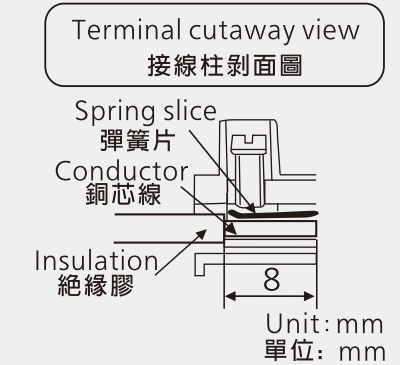

Figure 2
-  Strand the core wire together after stripping, then insert them into about 8 mm deep position of the terminal block, ensuring that the part is under the spring slice, and no copper core cord is exposed outside. Make sure that the copper core cords are fixed by screws reliably (the recommended screw fixing torque is $0.49 \text{ N}\cdot\text{m}$) (See Figure 2). Otherwise an electric shock may be caused.